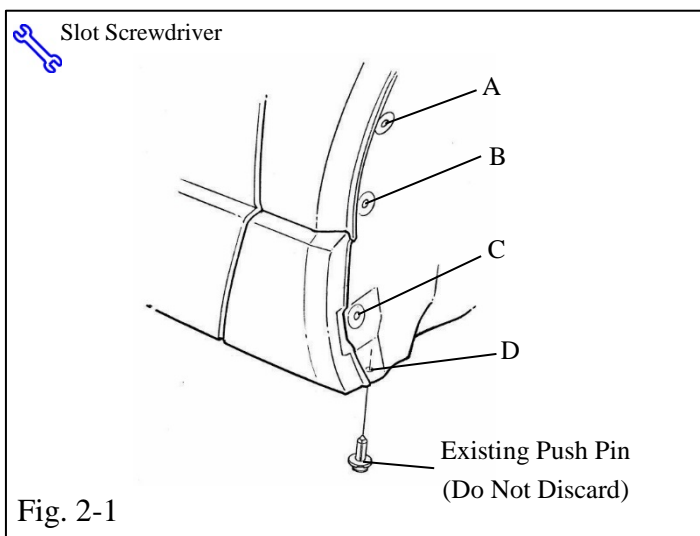

Fig. 2-1
- Remove existing lower bottom push pin location D, **DO NOT DISCARD**. (Fig. 2-1)